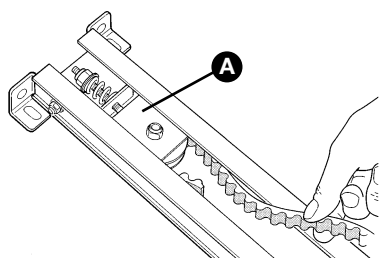

Figure 14
**2** Pass one end of the belt through the tightener [A], as in fig. 14.